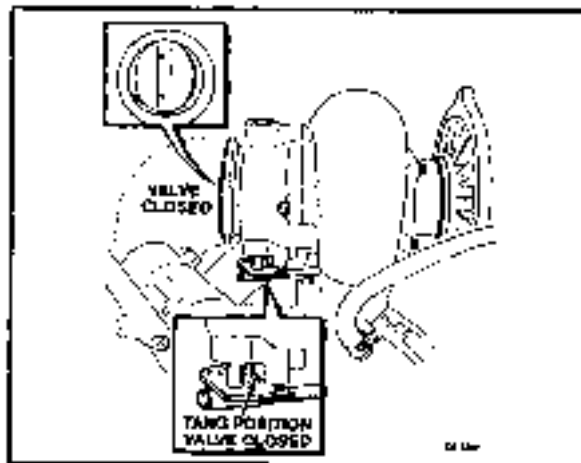

Figure 2.2-3. - Exhaust Back Pressure Valve Closed
5. Exhaust back pressure device bell crank (If equipped) (Figure 2.2-3.) during cranking and assure it is not closing. If the tang is positioned as shown in Figure 2.2-3., the exhaust (butterfly) valve is closed.